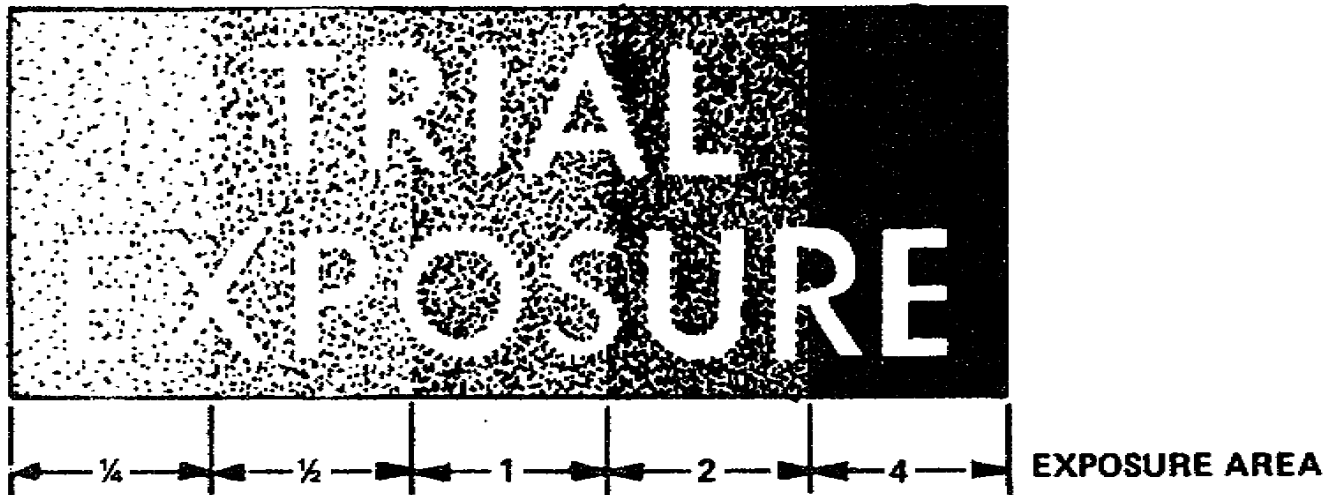

Figure 3-10. Trial exposure
a. You should make trial exposures, starting with one-quarter of the exposure time you expect you will need, an aperture of f/8 (lens setting). You then make five exposures on one sheet of film. You do this in the following manner: first you pull the dark slide out 1 inch, make an exposure for 2 seconds, pull the slide out 1 more inch, and make another exposure. Do this a total of five times at 2 seconds each. The result will be a single negative with five different exposures, as shown in Figure 3-10.